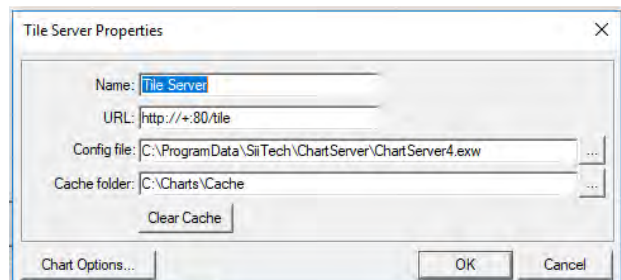

Figure 82: Tile Server Properties
2. Open the ChartServer Software. Click the EDIT menu and select "New Tile Server" (Figure 82).